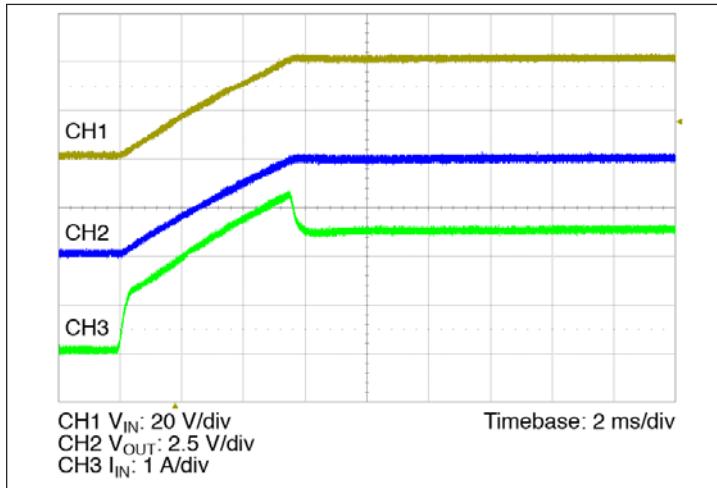

**Figure 11** – Start up from application of  $V_{IN}$ ; VC pre-applied
- **Normal Operation (VC applied prior to  $V_{IN}$ ):** In this case the controller is active prior to the input. When the input voltage is applied, the VTM output voltage will track the input allowing for a soft start (See Figure 11). If the VC voltage is removed prior to the input reaching 26 V, the VTM will shut down.